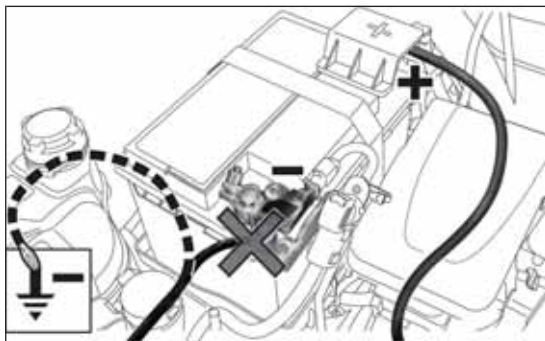

fig. 115
- ☐ connect the positive terminals (+ sign near the terminal) of the two batteries with a jump lead fig. 115;